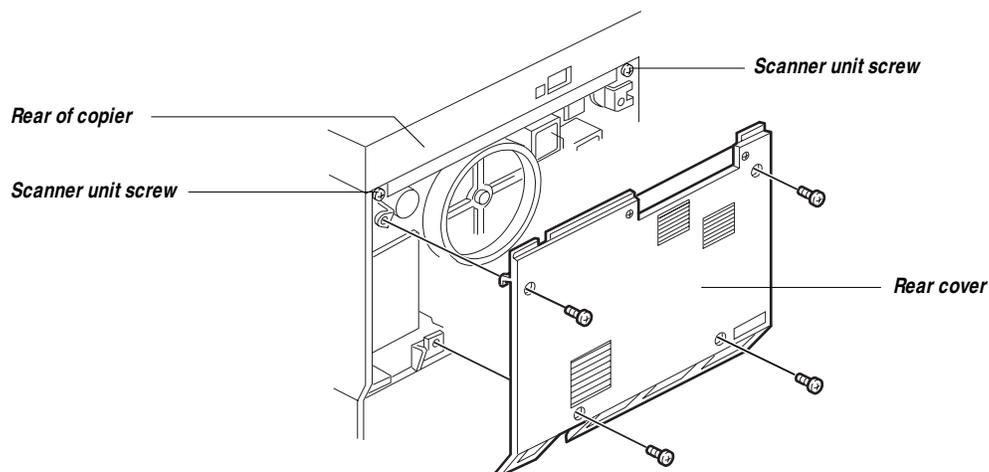

Figure 2-1 Removing the rear cover and scanner unit screws
5. **While you are at the rear of the copier, remove the two screws that attach the scanner unit to the copier (see Figure 2-1).**